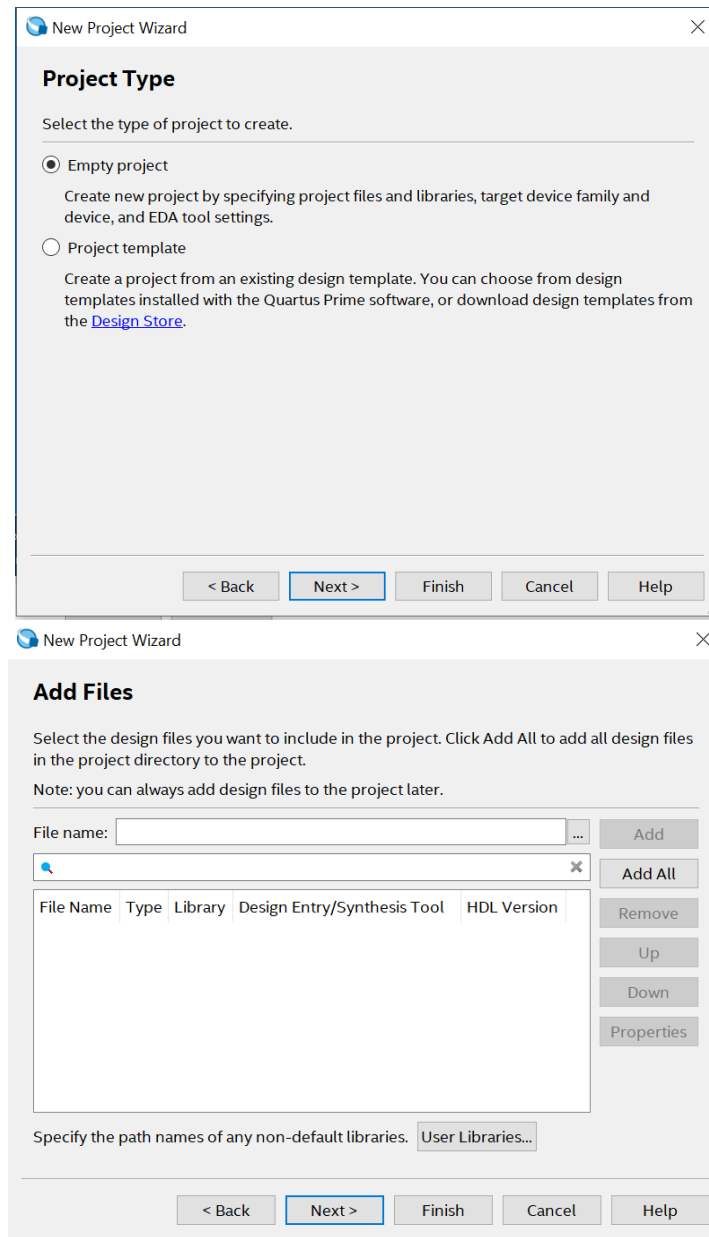

Figure 7: Add file
- Choose **File/New Project Wizard** on toolbars to reach the window in Fig.7. You can skip this window in subsequent projects by checking the box *Don't show me this introduction again*. Press *Next* to get the window shown in Fig.8.